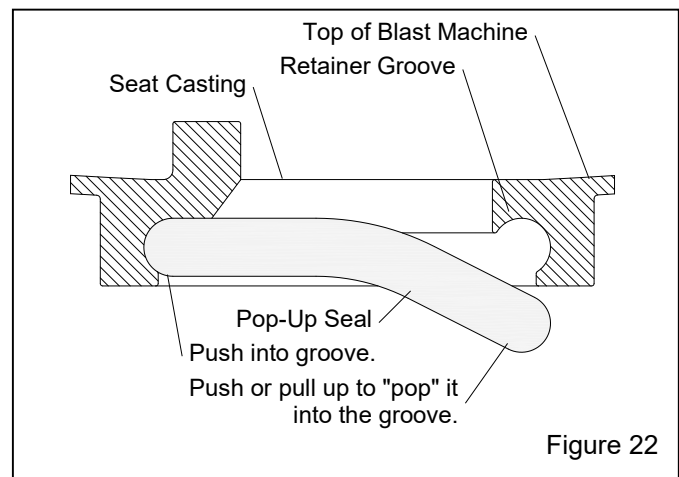

Figure 22
8.8 Replacing the Pop-Up Seal – Figure 22